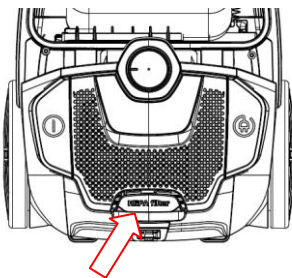

Fig 16
3. Clean the outlet filter: open the outlet cover and take out the HEPA frame and filter. Wash it and install it after the filter has fully dried. (Fig 16/17)